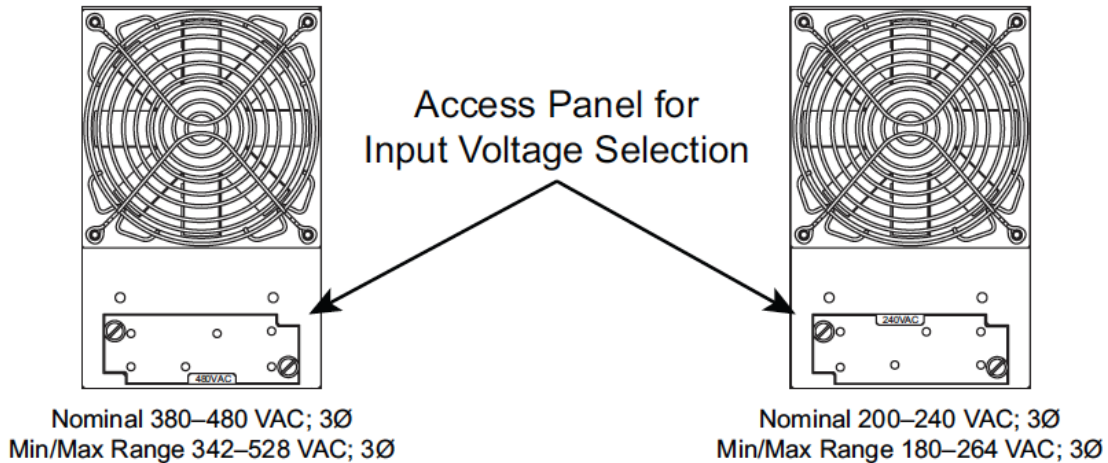

Figure 1-8 PS-401 voltage selection access panel
- 2 Refer to Figure 1-8 for the location of the voltage selection assembly on the front of the PS-401 supply.
- 5 Carefully insert the voltage selection assembly back into the power supply chassis and make sure it is firmly seated into the connector. The words "240VAC" should appear in the cutout area as seen in Figure 1-8.